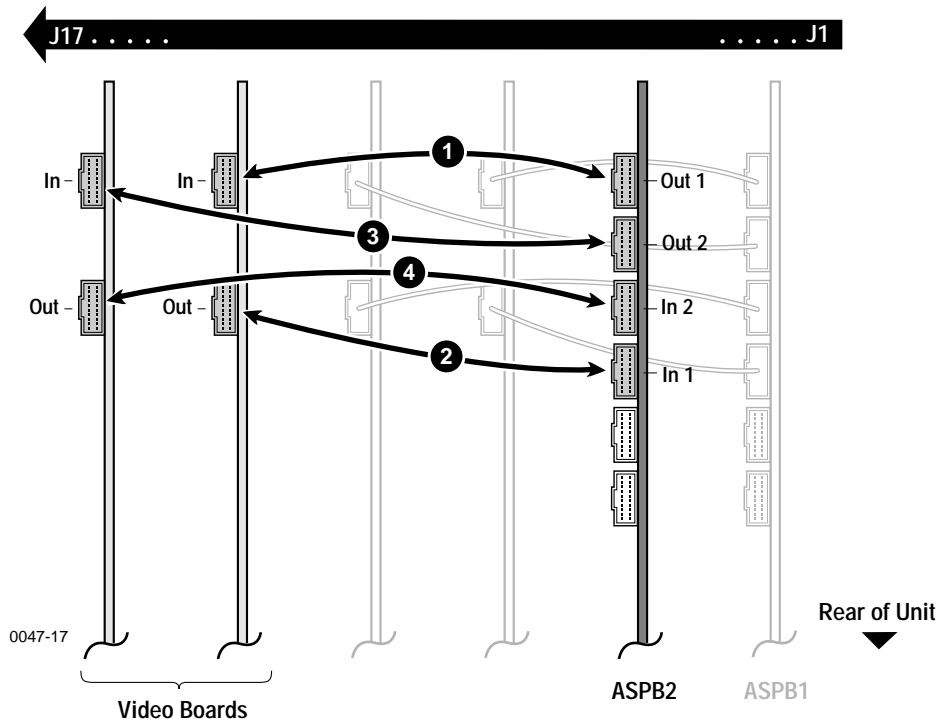

Figure 17. Sharcnet cabling example for ASPB
- b. Connect a Sharcnet ribbon cable between the ASPB2 Sharcnet Out1 connector and the Sharcnet In connector of the Serial Digital I/O board in the next higher numbered board slot (❶ in example Figure 17).
- c. Connect a Sharcnet ribbon cable between the ASPB2 Sharcnet In1 connector and the Sharcnet Out connector of the Serial Digital I/O board in the next higher numbered board slot (❷ in example Figure 17).
- a. Connect a Sharcnet ribbon cable between the ASPB2 Sharcnet Out2 connector and the Sharcnet In connector of the Serial Digital I/O board in the next higher numbered board slot (❸ in example Figure 17).
- b. Connect a Sharcnet ribbon cable between the ASPB2 Sharcnet In2 connector and the Sharcnet Out connector of the Serial Digital I/O board in the next higher numbered board slot (❹ in example Figure 17).